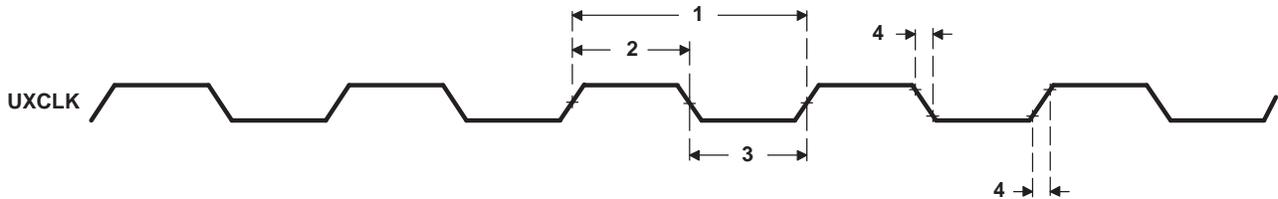

Figure 5-44. UXCLK Timing
5.13.1 Timing Requirements for UXCLK(1) (see Figure 5-44)